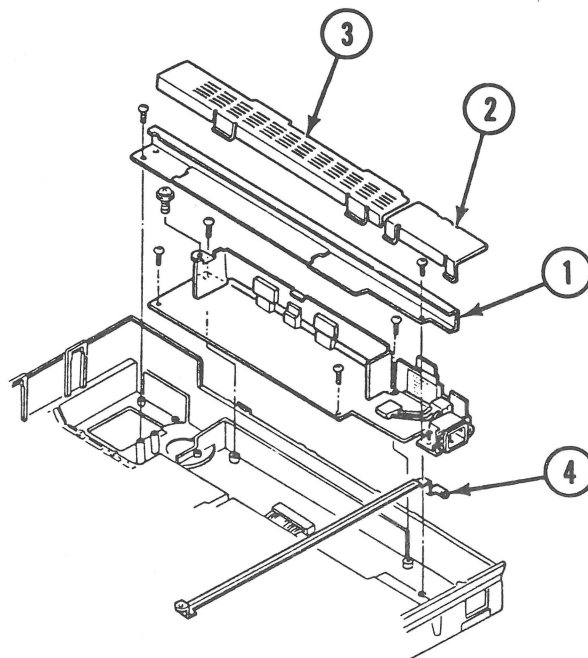

FIGURE 32
5. Replace the left-side guide rail (Figure 32, #1) with three screws.
6. Replace the black shield plate (Figure 32, #3) and secure it with one screw.
7. Attach the inside housing (Figure 32, #2). Make sure that the tabs snap into the slots on the left guide rail.
8. Secure the ground strap (Figure 32, #4) with its screw.